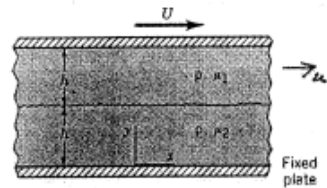

FIGURE P6.95
6.95 Two immiscible, incompressible, viscous fluids having the same densities but different viscosities are contained between two infinite, horizontal, parallel plates (Fig. P6.95). The bottom plate is fixed and the upper plate moves with a constant velocity U . Determine the velocity at the interface. Express your answer in terms of U , μ_1 , and μ_2 . The motion of the fluid is caused entirely by the movement of the upper plate; that is, there is no pressure gradient in the x direction. The fluid velocity and shearing stress is continuous across the interface between the two fluids. Assume laminar flow.